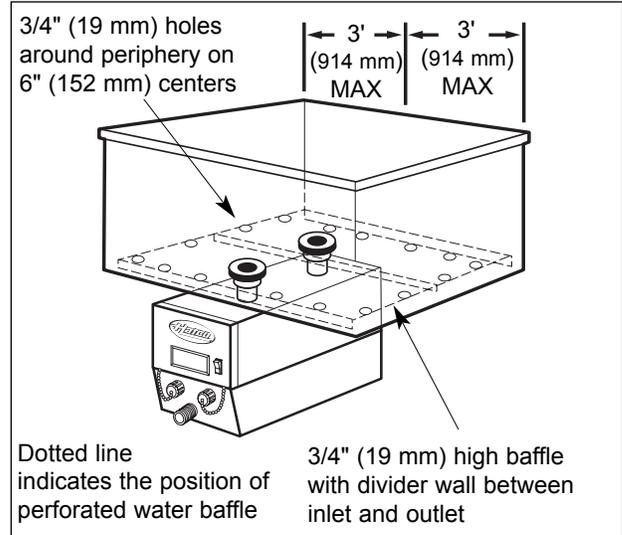

Figure 4. Hydro-Heater Water Baffle
**NOTE:** The FR2 heater should be positioned with no more than 3' (914 mm) on either side when mounted under holding vessel. See Figure 4. A perforated water baffle (not supplied with unit) must be used to distribute the heated water properly.